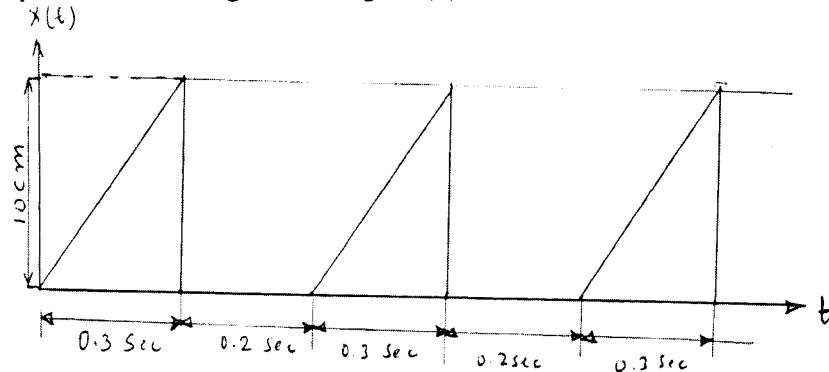

Fig.Q2(b)
- b. Represent the periodic motion given in Fig.Q2(b).